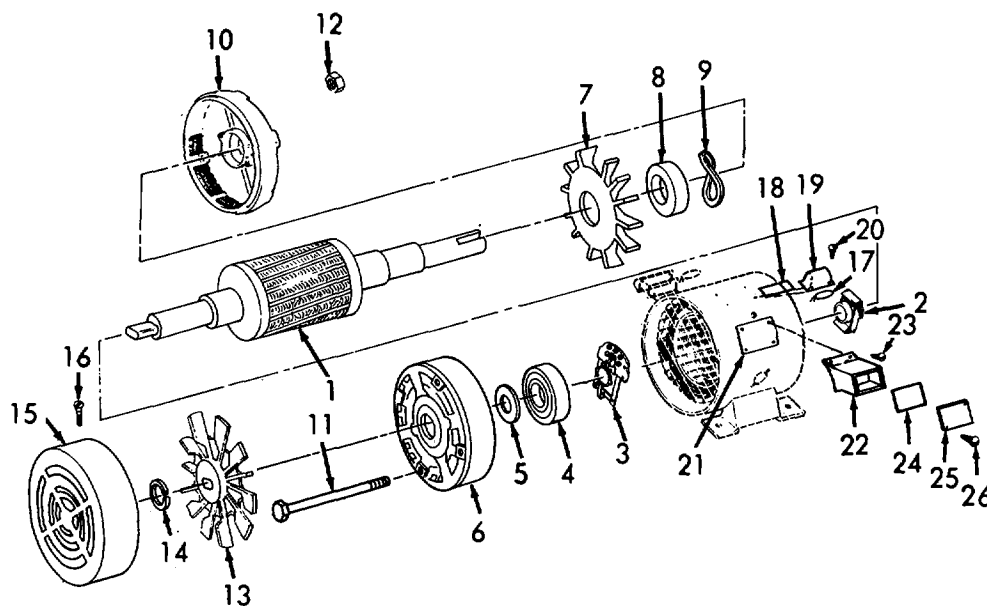

Figure 4-5. *Electric Motor, Assembly.*
e. *Assembly.* (Refer to Figure 4-5).